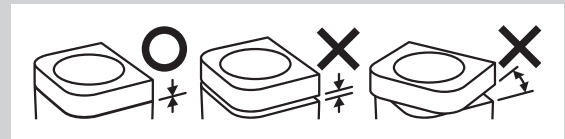

Fig. 27
- Securely attach the Chamber Cap to prevent the chamber cap from being blown off, which may lead to an injury (Fig.27).